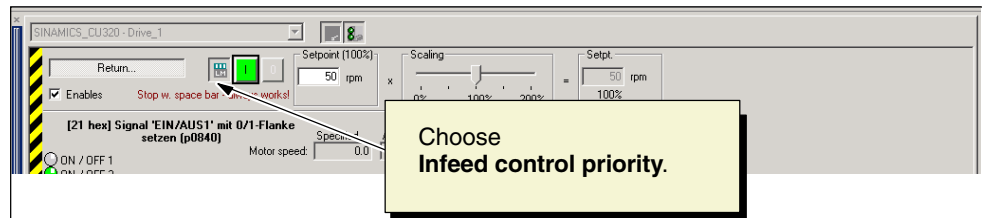

Fig. 4-10 Infeed control priority
11. Choose **Infeed control priority** (see Fig. 4-10).